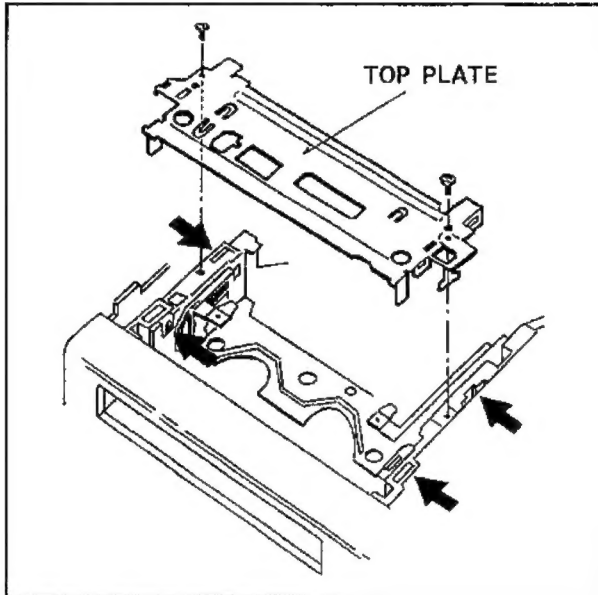

Fig.M45
1. Push the locking tabs to direction as shown in Fig.M45 and remove the Top Plate.